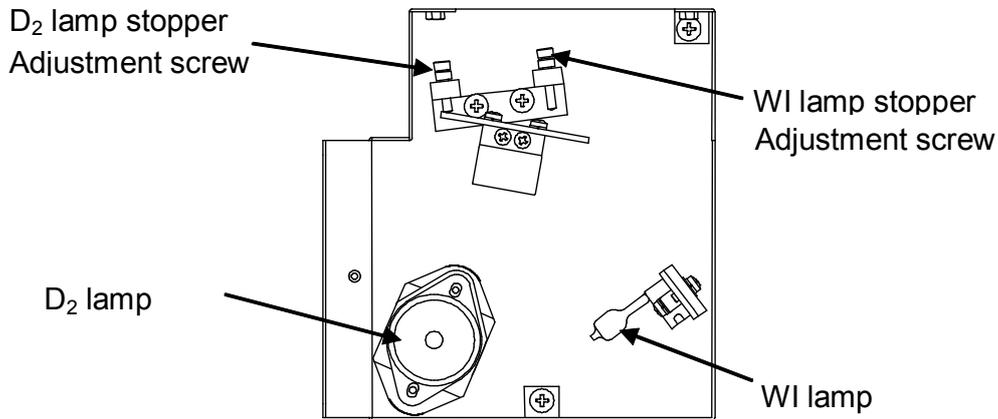
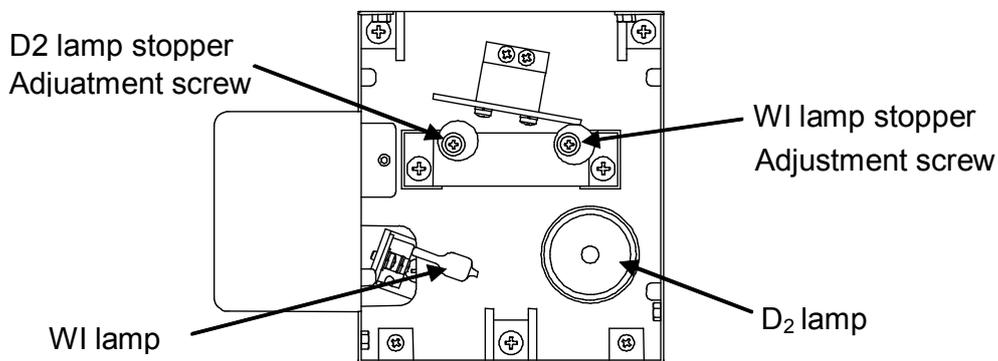

Figure 5.5 Light source unit (V-630)
Figure 5.6 Light source unit (V-650/660/670)
- (2) Remove the halogen lamp from the socket.
- (3) Insert a new halogen lamp into the socket (Fig. 5.5 or 5.6).
- (4) Adjust the light source mirror as described in Section 5.3.2.2 or 5.3.2.3.
- (1) Slide the outer lid of the light source unit to remove it.
- (2) Remove the deuterium lamp from the socket.
- (3) Insert a new deuterium lamp into the socket (Fig. 5.5 or 5.6).
- (7) Turn the halogen lamp stopper adjustment screw (Fig. 5.5 or 5.6) and search for a position where the value displayed on the monitor is a maximum.
- (8) Replace the lid of the light source unit.
- (7) Turn the deuterium lamp stopper adjustment screw (Fig. 5.5 or Fig. 5.6) and search for a position where the value displayed on the monitor is a maximum.
- (8) Replace the of the light source unit.
- (5) Turn the WI lamp stopper adjustment screw (Fig. 5.5 or Fig. 5.6) and search for a position where the value displayed on the monitor is a maximum.
- (6) Replace the lid of the light source unit.
- (5) Turn the deuterium lamp stopper adjustment screw (Fig. 5.5 or Fig. 5.6) and search for a position where the value displayed on the monitor is a maximum.